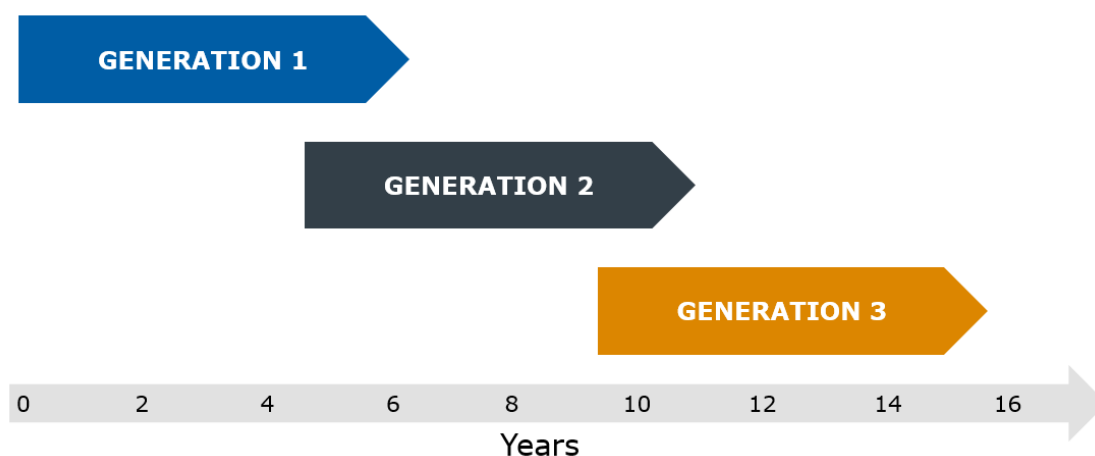

Figure 6 – RRC Life Cycle Management
RRC's "No-Obsolescence Promise" guarantees that RRC manages the previously mentioned tasks and delivers an updated battery revision that is backward compatible (drop-in replacement) to our existing designs. Figure 6 illustrates how the next battery generation is typically developed 4 to 5 years after the previous battery release. RRC uses a Change Notification (CN) process to inform customers of these updates.